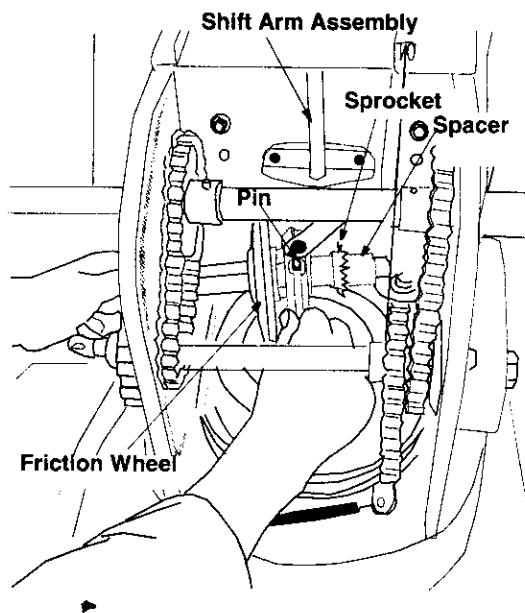

Figure 32
- Insert the pin from the shift arm assembly into the friction wheel assembly and hold assembly in position. See Figure 32.